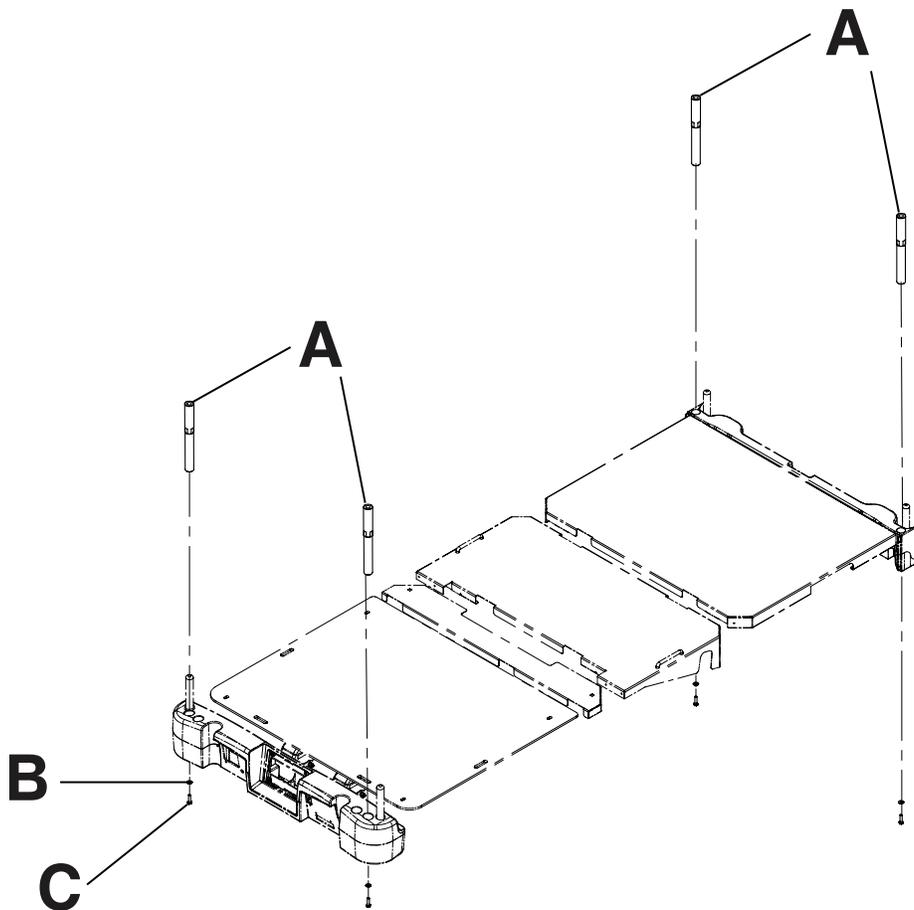

Figure 96: Traction sleeves
1. Install the traction sleeves into the sockets at the head end and foot end of the product (A) (Figure 96 on page 102).
2. Using a 7/16 in. combination wrench, install one washer (B) and one bolt (C) to secure the traction sleeve in the socket (Figure 96 on page 102).